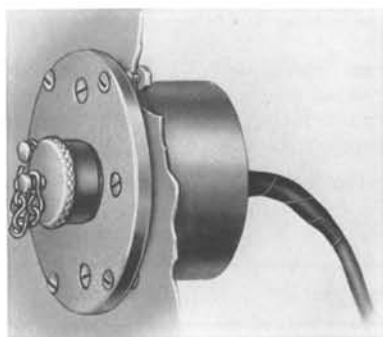

FIG. 18—INSTALLATION OF KS-8420 JACK
10.06 Install the KS-8420 jack at outdoor locations (for ships, boats, trains, etc), as shown in Fig. 18, and as follows: